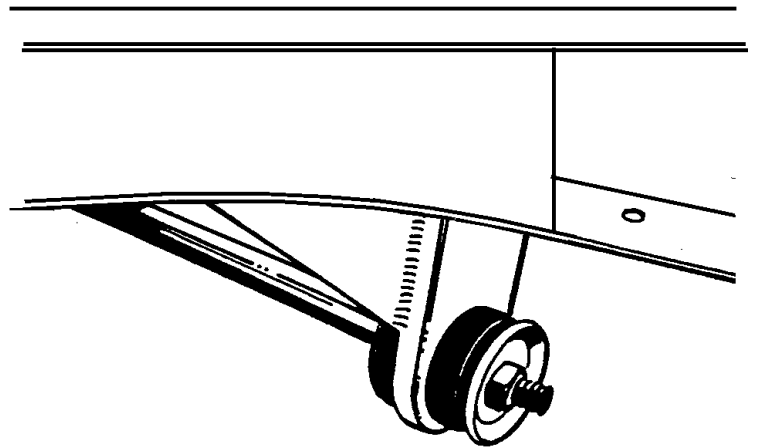

Figure 7
9. Install the strut rod onto the control arm. Now, assemble onto the strut rod the large rubber bushings, including the cupped washers, and the strut mount plate. Be certain to fully tighten the nut on the strut rod to its' fully seated position. See Figure 7. There are two rubber bushing sets available; the standard replacement and the improved set. We recommend the improved set, as it provides more stability to the front suspension. The Pinto and Mustang strut rods are different lengths. We recommend the use of Pinto strut rods, as they are bent less than the Mustang strut rods. You will find that with either strut rod the strut rod plate does not line up with the bottom of the frame rail. The strut rod must be heated in the elbow area and bent outward. The rod is bent outward until the strut mounting plate lines up with the frame rail. You will find that because the Pinto strut rod is initially bent less and requires much less bending. The strut rod will act as an alignment fixture while you tack weld the mount plate in place, then tack weld the gusset in place. Remove the strut rod, bushings, and arm, and finish welding to the frame and each other.